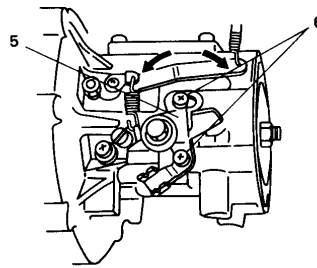

Fig. 23C
- b. To adjust governor, loosen screws (6) which holds control lever assembly (5) to crankcase and move the assembly left or right to obtain the maximum speed of 6500 rpm (Moving control lever assembly to left gives higher rpm and moving to right, lower rpm)(Fig. 23C)